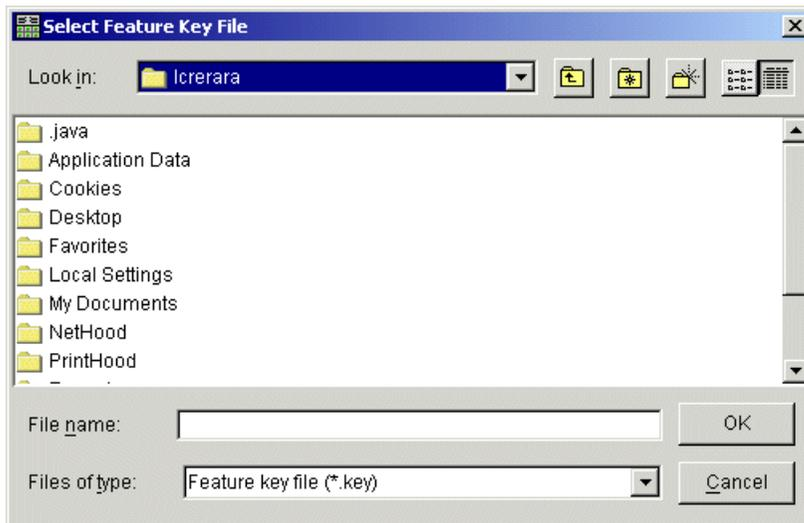

Figure 5-19 Select Feature Key File window
2. The Select Feature Key File is displayed (see Figure 5-19):